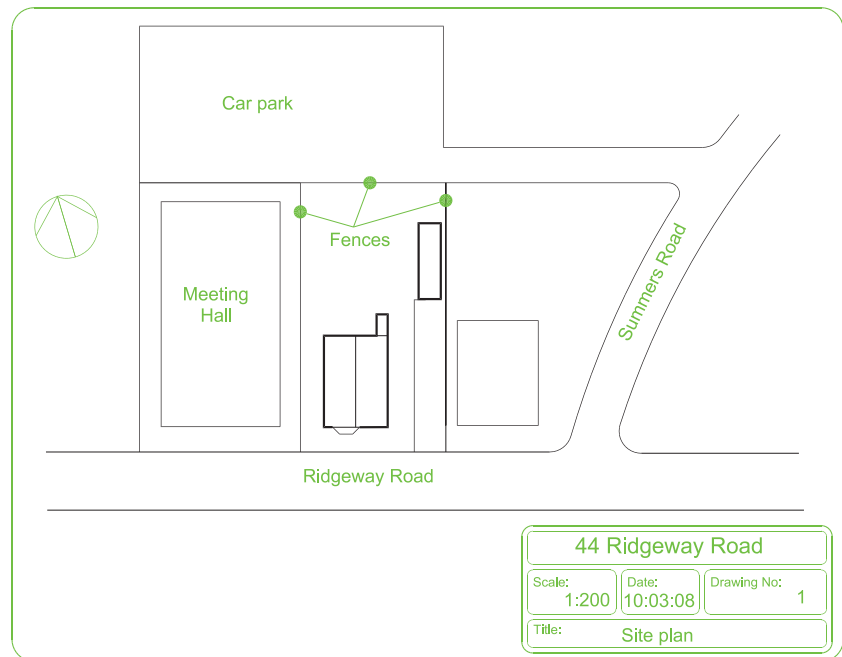

Fig. 16.1 A site plan
1. a site plan of the original two-storey house, drawn to a scale of **1:200** (Fig. 16.1);